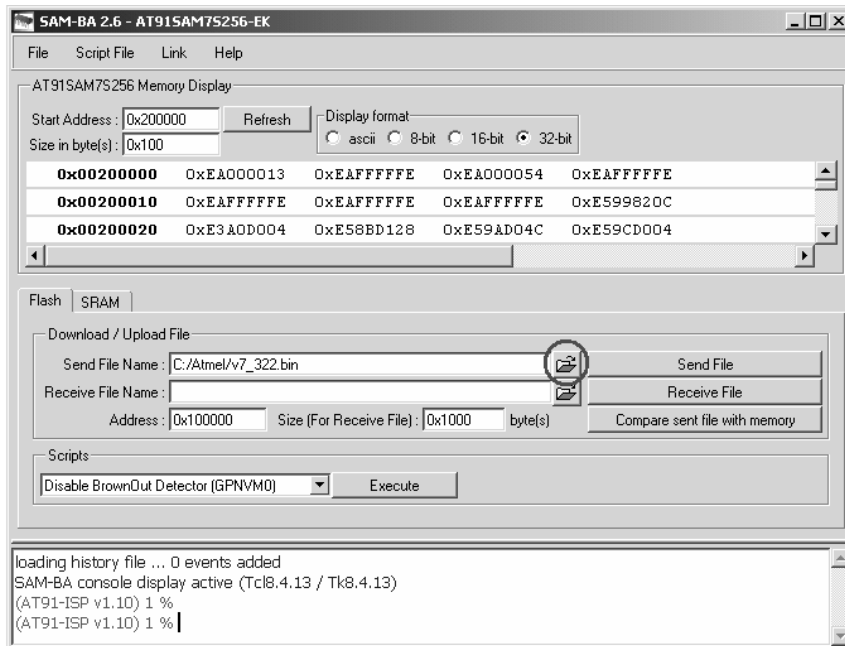

Fig. 3 Open the Latest Code Window
- d. Click the "open folder" button on the right of textbox "Send File Name" to open the latest code, please see figure 3 below. You will then have to locate the .bin file that you downloaded from the website and then hit open.